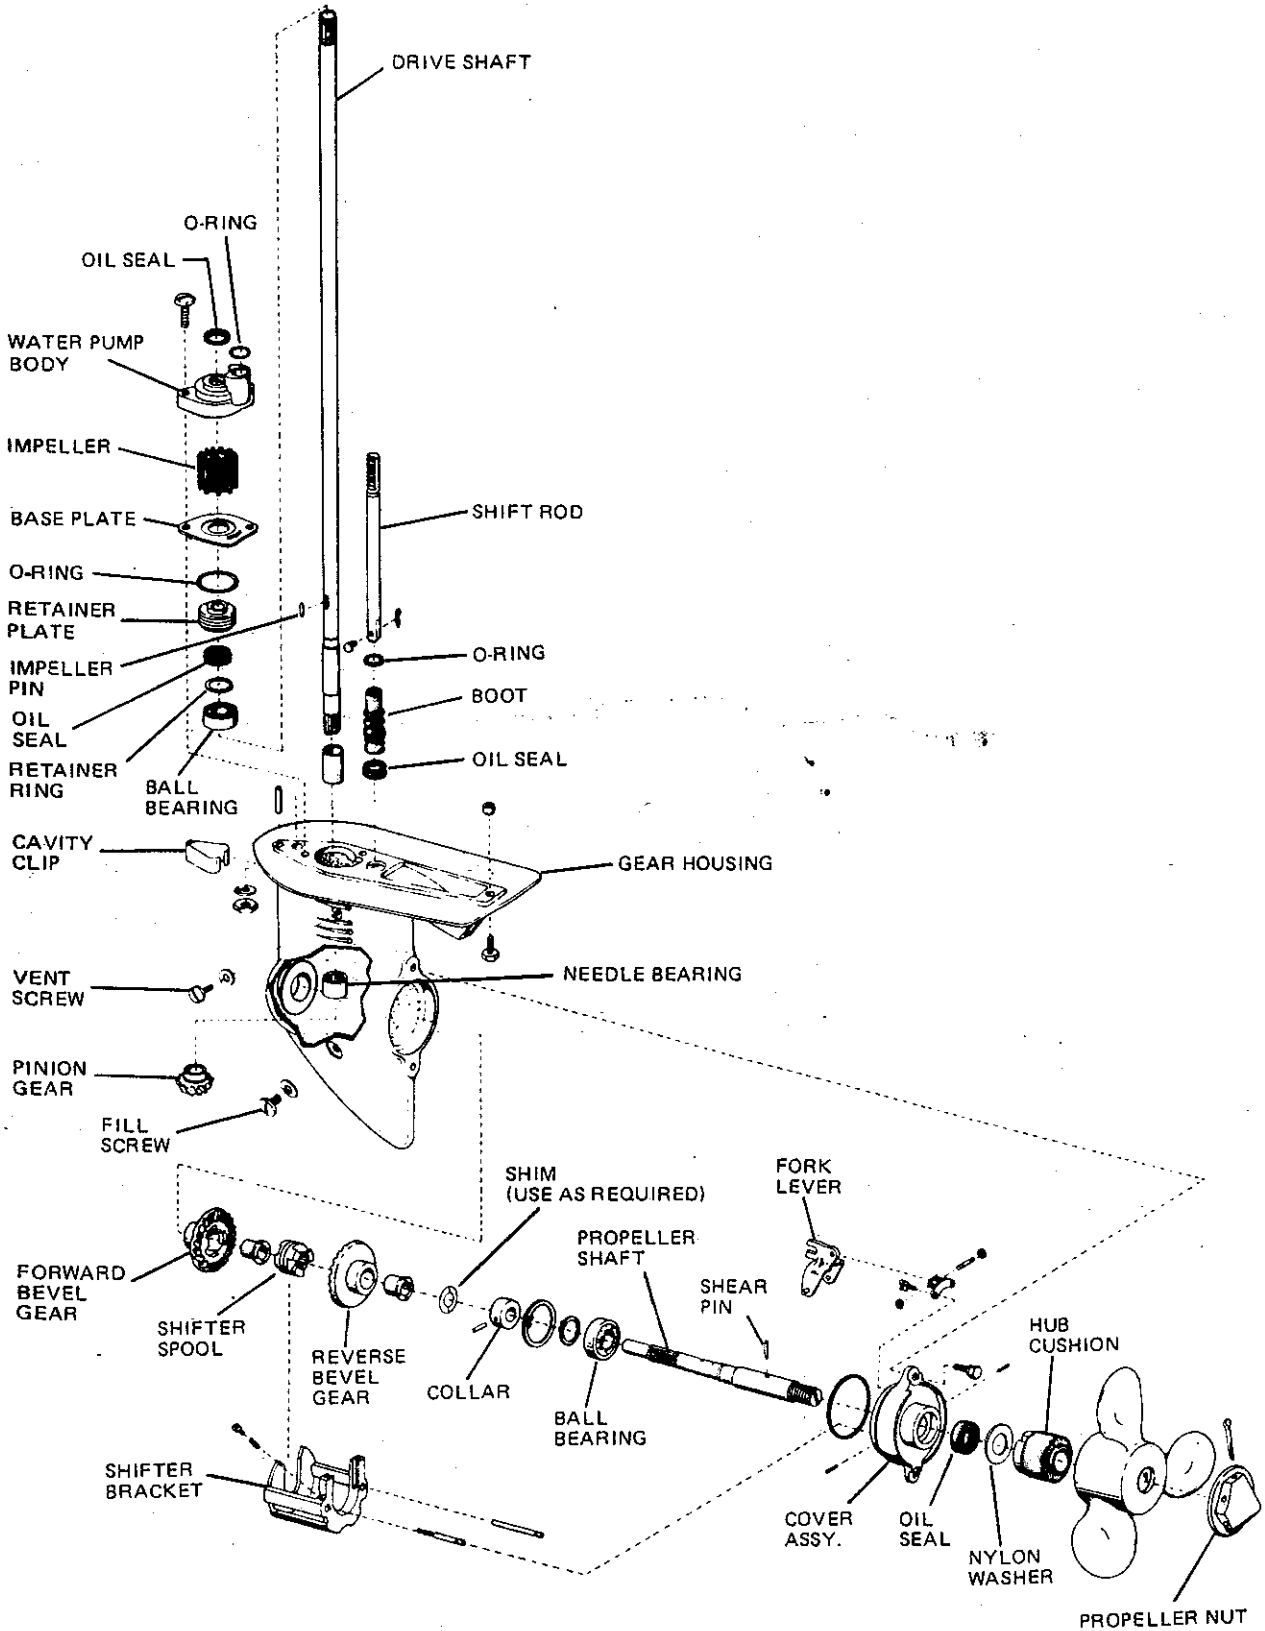

Figure 5. Exploded view of FNR lower unit.
**3. DISASSEMBLY GEAR HOUSING [Figure 5]**
**5. REASSEMBLE GEAR HOUSING (Figure 5)**